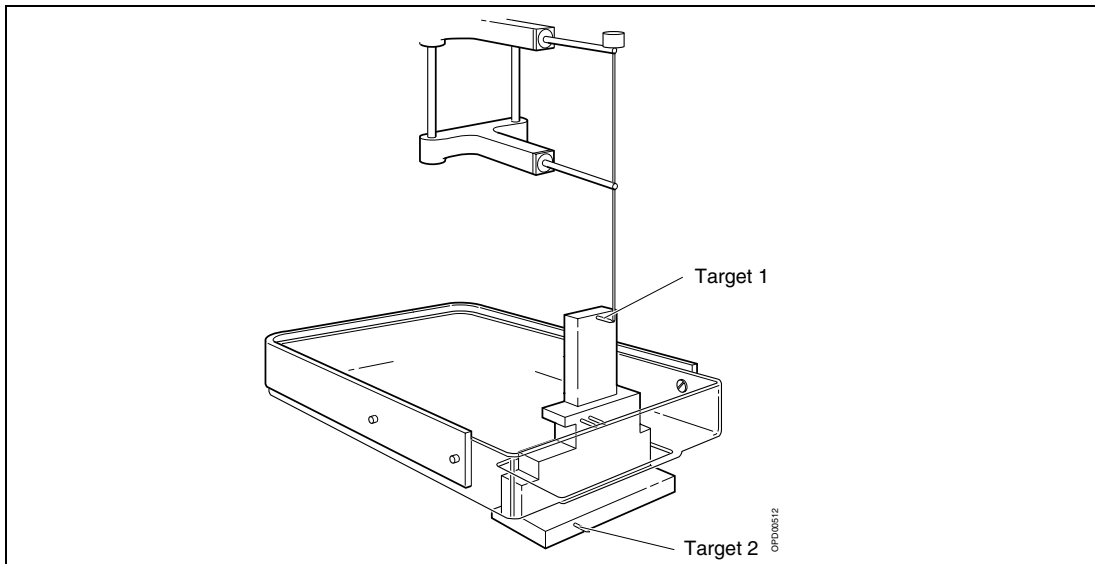
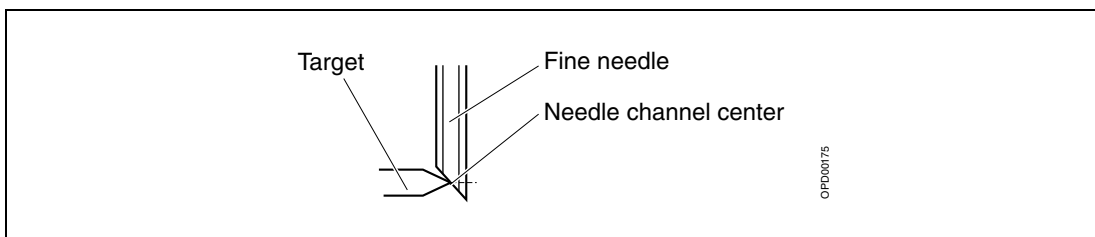

Fig. 4 Stereo calibration phantom
Fig. 5 Position of needle
With the targets facing the patient side, the phantom fits in the opening of the stereo compression plate, see Fig. 4. Target 2 shall be positioned 25–28 mm in negative x-axis direction and 12 mm from the object table side.
7. Move the needle to Target 1 of the stereo calibration phantom, see Fig. 4, by using the adjustment knobs. Position the needle according to Fig. 5.